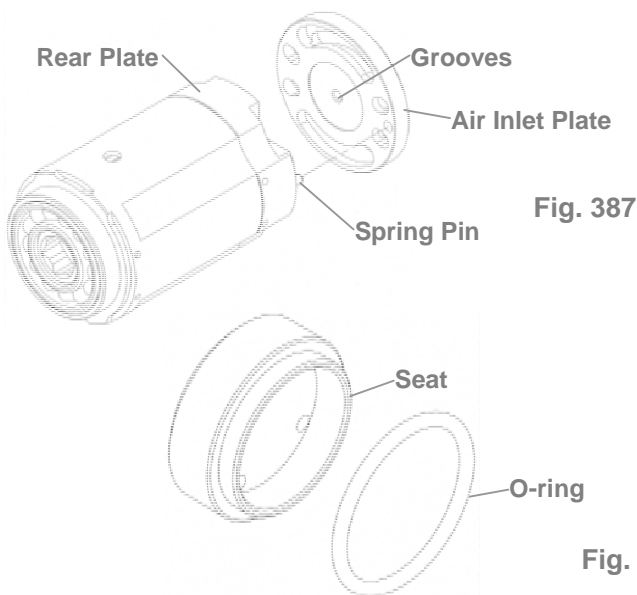

Fig. 387
(1) Cylinder Unit Assembly
- ① Place the rotor blades into the rotor. Insert the spring pin A and B into the cylinder. Make sure the pins aim at the pin holes when putting the cylinder down.
- ② Make the groove of the air inlet plate toward the rear end plate and assemble. Make sure the holes aim at the pin while assembling, Fig. 387.
- ③ Assemble the regulator with the rotor- air inlet unit. Make sure the steel balls of the regulator are placed on the holes of the air inlet plate. Then, place the seat with the o-ring sleeved on the regulator. Assembly is completed.